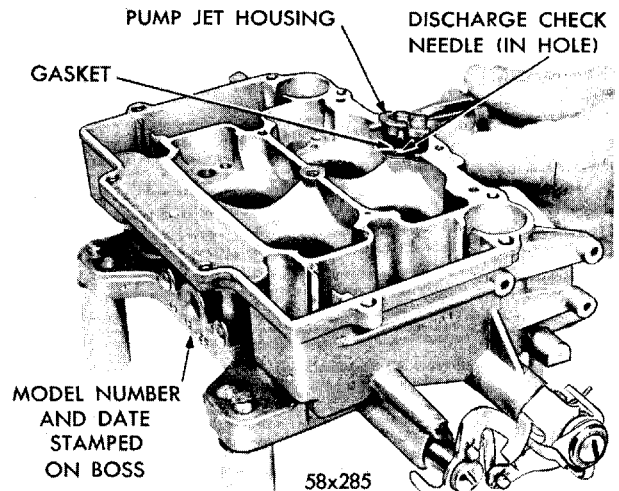

Fig. 3—Removing or Installing Accelerator Pump Jet Housing
(1) Remove the screws that attach the accelerator pump jet housing to the main body. Lift out the jet housing and gasket, as shown in Figure 3. Discard the gasket. Now, invert the main body and drop out the discharge check needle, from the discharge passage.